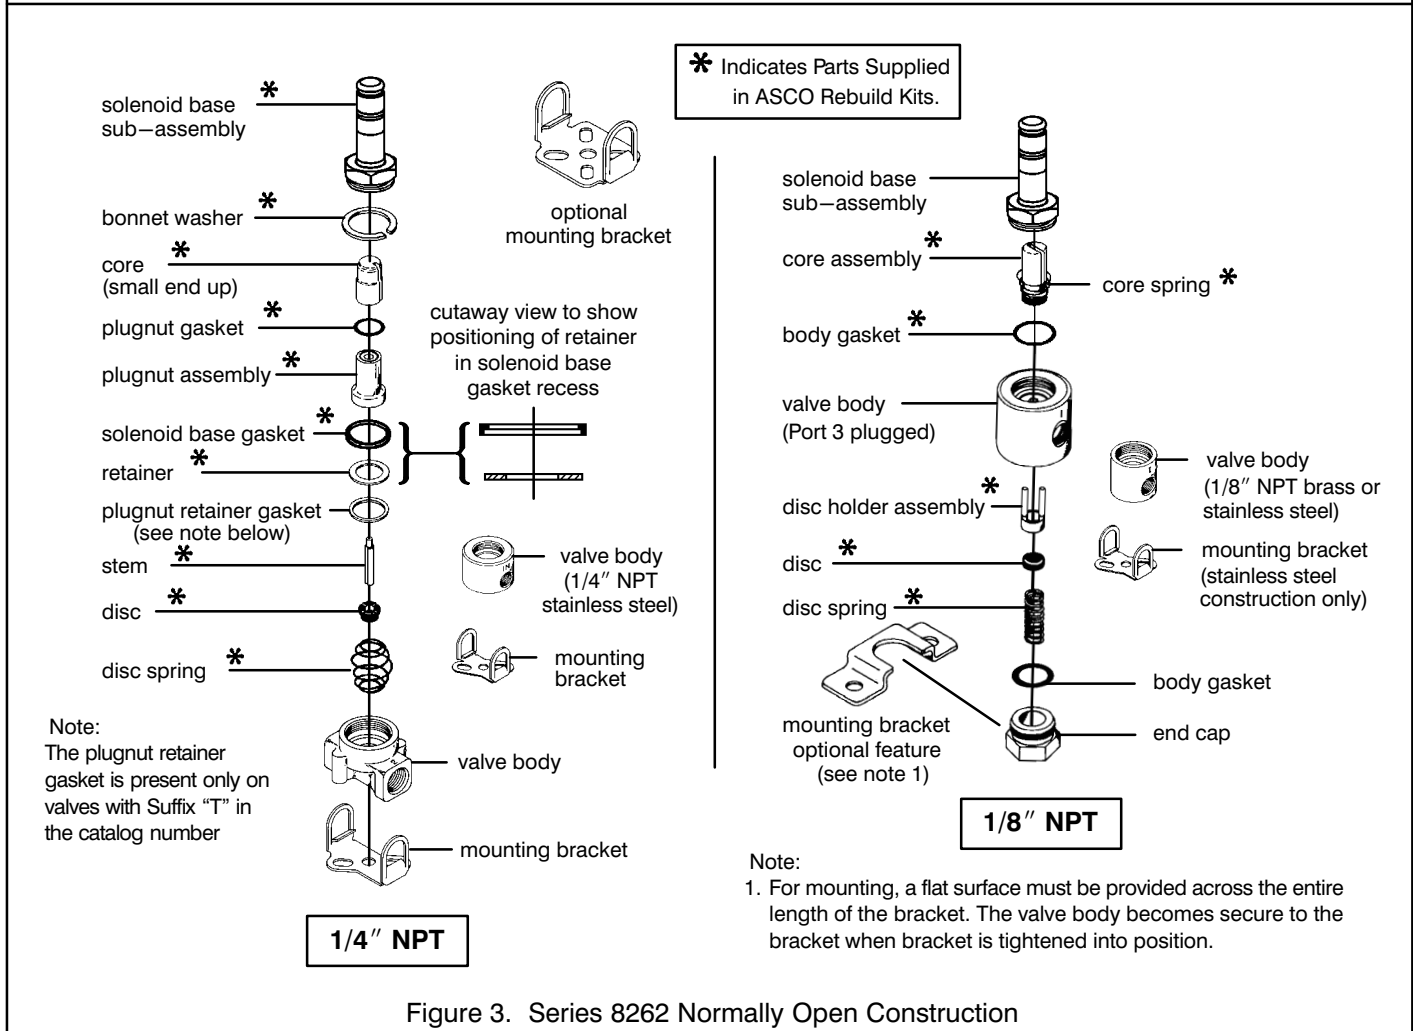

Figure 3. Series 8262 Normally Open Construction
4. For 1/8" normally open construction (Figure 3) remove end cap, end cap gasket, disc holder spring, and disc holder assembly.
3. For 1/8" normally open construction (Figure 3), install disc holder assembly, disc holder spring, end cap gasket and end cap. Torque end cap to  $90 \pm 10$  in-lbs [ $10,2 \pm 1,1$  Nm].
### Valve Disassembly (1/4" Normally Open 8262) (See Fig. 3)